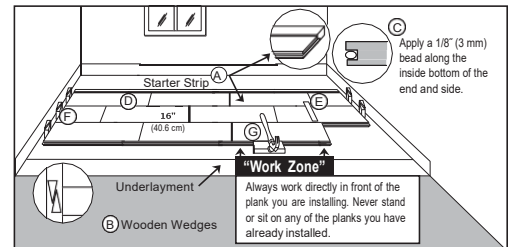

Figure 13
- Select the first board. All installations should begin with the groove side against the wall using the longest boards available. Apply a continuous 1/8" (3 mm) glue bead to the inside bottom of the groove on the end of the board. Do not apply glue to the groove side at this time (Item C, Figure 13). Products with the end tongue on the left should be installed right to left, opposite tongues should be left to right. (Item D, Figure 14). If a sacrificial board was used remove it DO NOT glue the first row to it.
- Complete the first row. Cut the last board allowing for 1/2" (13 mm) clearance between the wall and the floor. (Use the remaining end of the cut board as a starter board for any row following row three). Install a wedge on the end of the board between the hardwood flooring and the wall, allowing 1/2" (13 mm) expansion space. Avoid installation of any boards shorter than 16" (40.6 cm) in the first four rows. (Item F, Figure 13).
- Use a pull bar to pull the last board into place from the opposite end. Install wedges into the gap and tighten (Item B, Figure 13).
- Cut or use a shorter board for the first board of the second row. Start the second row by applying a 1/8" (3 mm) bead along the inside bottom of the end and side groove of the new board. Install the first board of row two. Apply a bead of glue to the inside bottom of the end and side groove of the next board and install. When installing boards together, use a tapping block against the tongue, not the groove (Item G, Figure 13). Tap the boards into place by tapping with a hammer on the tapping block. DO NOT tap on the edge directly with the hammer. Complete the second through fourth rows using this technique. Insert wedges at the ends, as necessary, to restrain the movement of the floor.